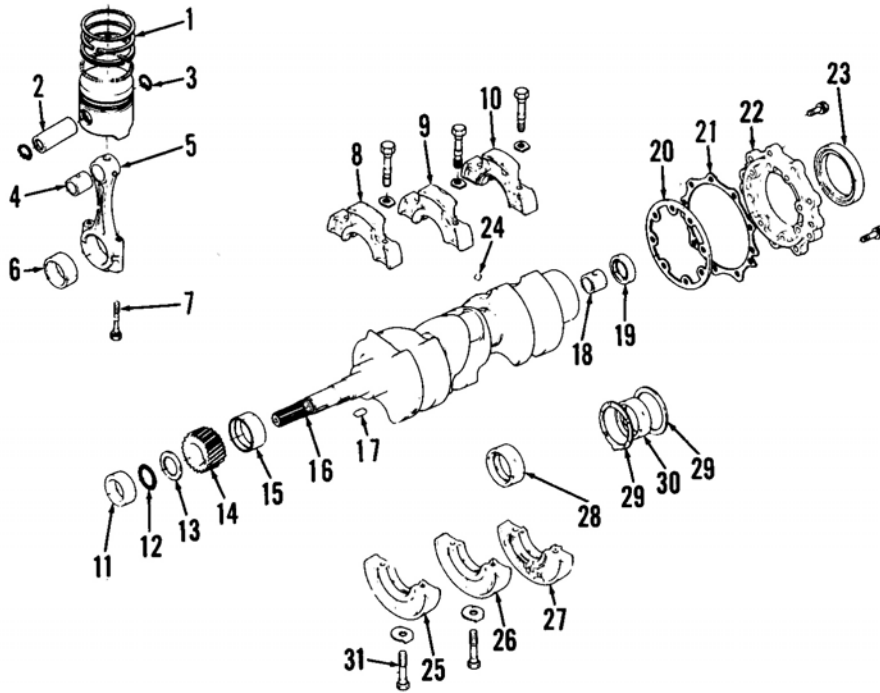

Fig. 20—Exploded view of piston, rod and crankshaft assembly.
**30. R&R AND OVERHAUL.** Remove engine as outlined in paragraph 18. To remove crankshaft, remove pistons and rods, timing gear cover, crankshaft gear, flywheel and seal carrier (22—Fig. 20). Free bearing carriers (25, 26 and 27) by unscrewing locating screws (31—Fig. 20 or 21). Carefully withdraw crankshaft and bearing carrier assembly out rear of cylinder block. Note that bearing carriers are a tight fit in cylinder block to prevent oil loss between oil passages in block and bearing carriers. Remove screws securing bearing carrier halves and separate halves from crankshaft. Note that main
Standard main journal diameter is 43.934-43.950 mm (1.7297-1.7303 inches). Main bearing clearance for front bearing (15—Fig. 20) should be 0.034-0.106 mm (0.0013-0.0042 inch) while clearance for all other bearings should be 0.34-0.92 mm (0.0013-0.0036 inch). Main bearings are offered in 0.20 and 0.40 mm (0.0079 and 0.0157 inch) undersizes.